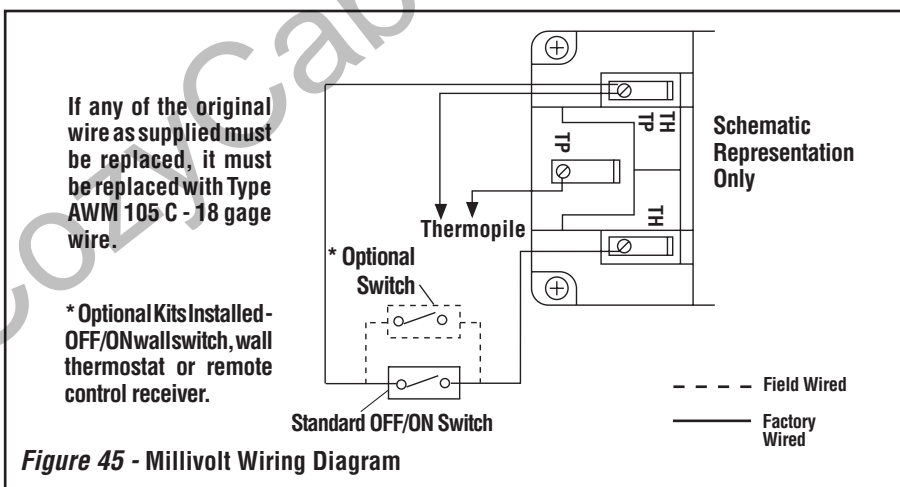

Figure 45 - Millivolt Wiring Diagram
### A. SIT and Honeywell Millivolt Wiring (See Figure 45) –
4. Alternatively, the appliance may be operated without the use of the controls indicated in step 1, solely by manipulating the gas valve control knob. In order to use this method, twist the free ends of the two conductor wire (which would otherwise go to the standard ON/OFF switch or Optional Switch) together as shown in **Figure 45**. Note: Wire is located inside the control compartment